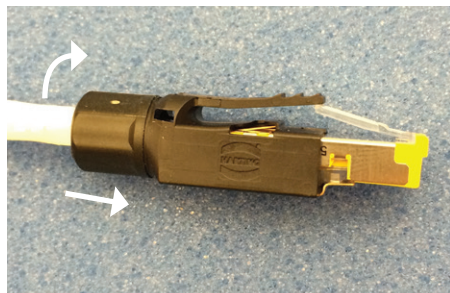

Figure 17: Tightening the retaining nuts
15. Pull up the black housing over the connector and click into place. Then, tighten the retaining nut as far as it will go (Figure 17).